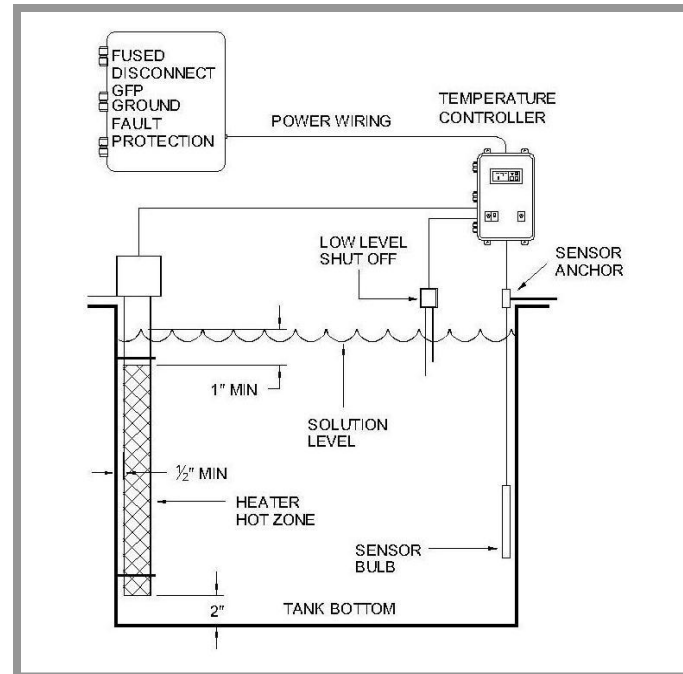

Figure 6: Typical Tank Setup
- 5) Review installation location to identify and verify the following items (see figure 6):